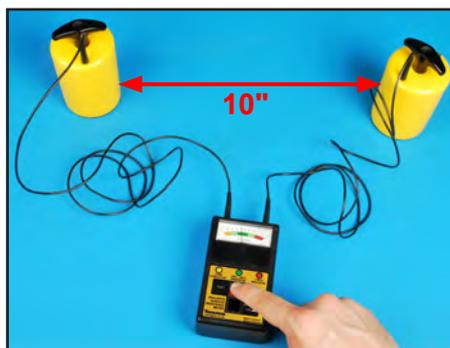

Figure 4. Using the test leads and two 5 pound electrodes to measure Rp-p of worksurfaces (place electrodes 1 meter apart for flooring)
5. Set the Test Voltage Button to AUTO. Press and hold the the TEST button until the measurement is displayed (see Figure 4).